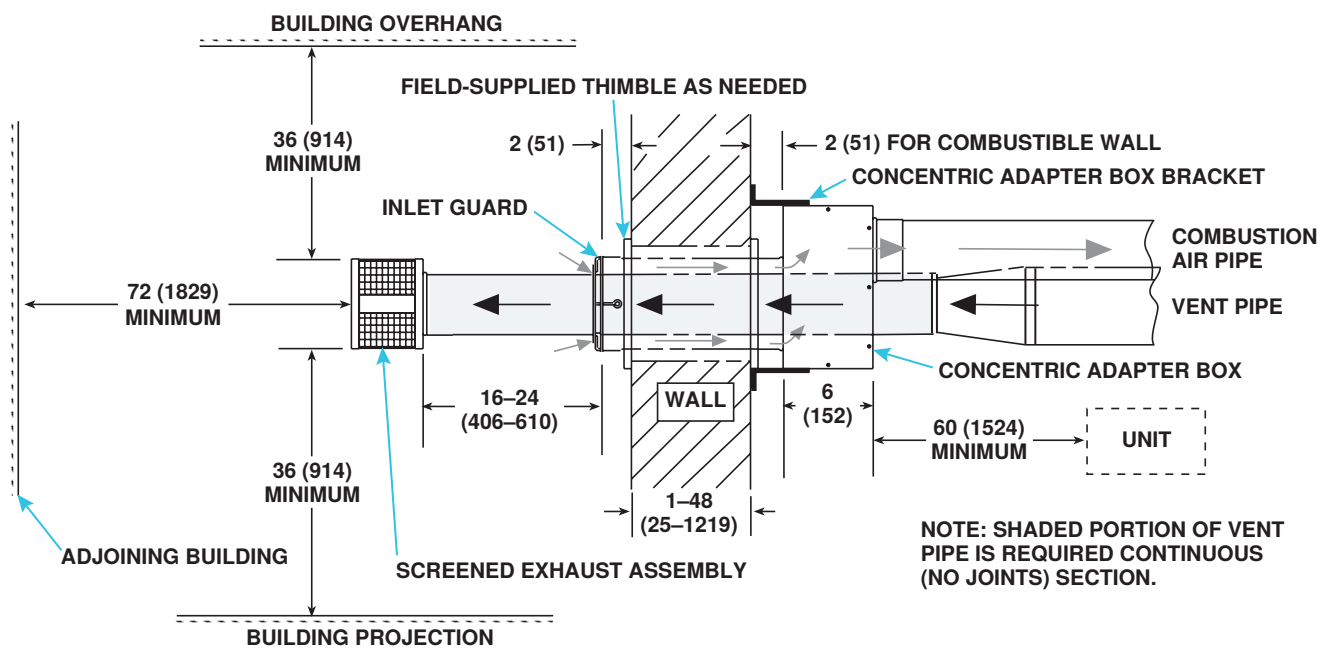

Figure 24. Option CC6 Installation
4. Secure longer angles on concentric adapter box brackets (see Figure 24) to concentric adapter box.
5. Connect outside section of combustion air pipe to concentric adapter box (see Figure 24):
- (1) Bracket length from box to wall
- (2) Plus wall thickness
- (3) Plus 2 inches (51 mm) beyond wall
6. Secure concentric adapter box to wall (see Figure 24):
- a. Position inlet guard over end of combustion air pipe in accordance with Figure 24.
- a. Refer to Figure 24 to determine lengths of each pipe segment and to calculate total length required. Transition to single-wall or Category III vent pipe run must be made maximum of 6 inches (152 mm) from heater side of box.
- d. Ensure that screened exhaust assembly is aligned so that its baffles are positioned at 12, 3, 6, and 9 o'clock (see Figure 24). Install screened exhaust in accordance with Figure 11.
10. Verify compliance with Figure 24 and with all specific venting requirements listed above.